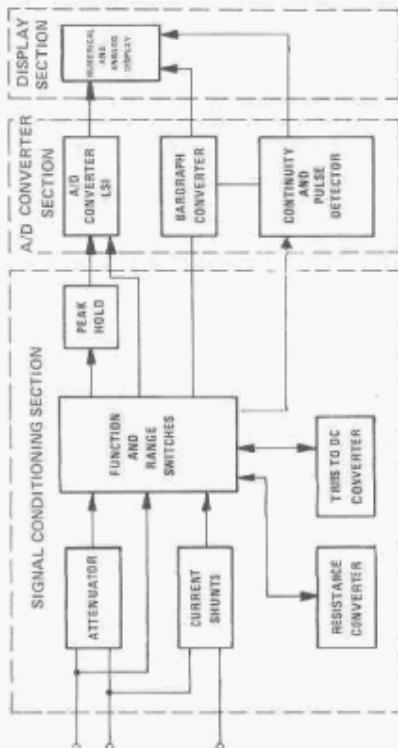

FIGURE 5-1. BASIC SYSTEM DIAGRAM
5.1.1 The basic system block diagram for the 467 is shown in Figure 5-1.